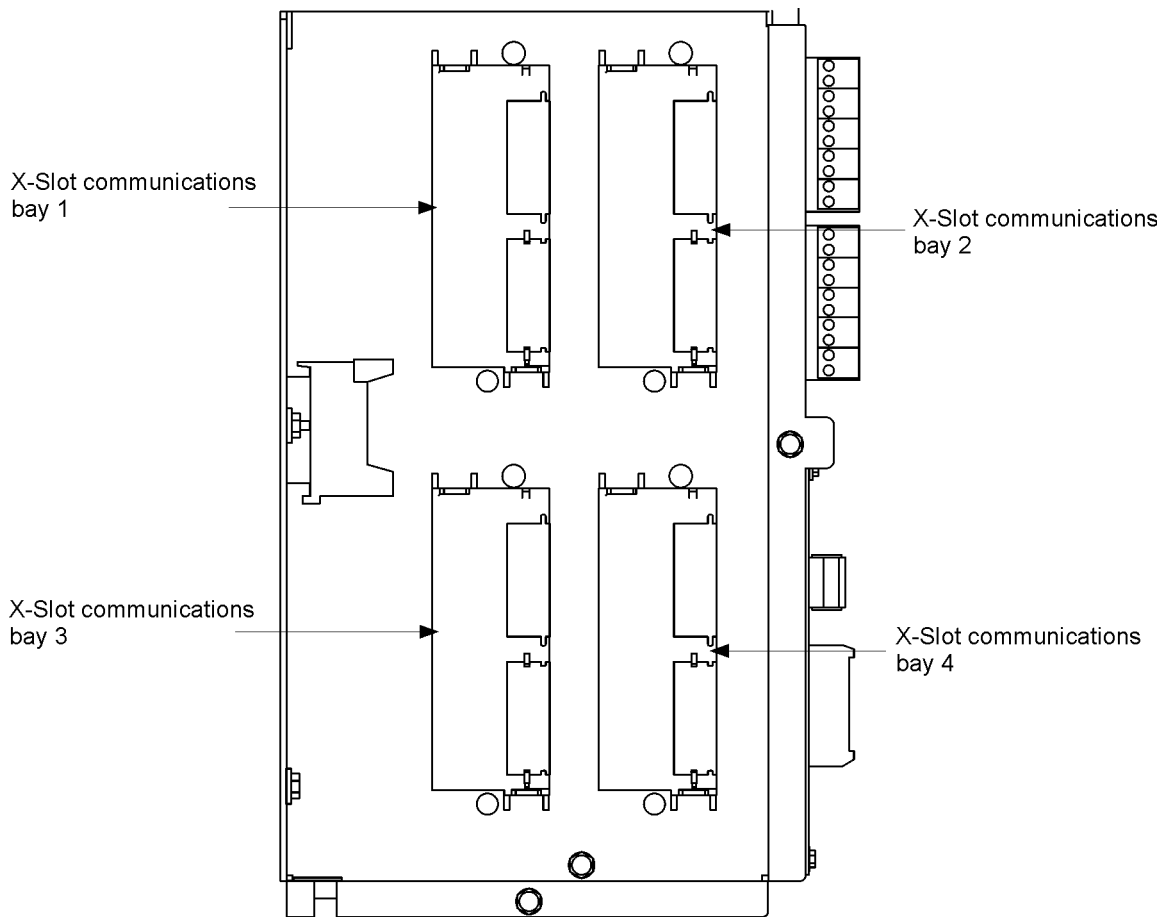

Figure 3-11. X-Slot communication bays
5. Route and install the LAN, telephone, and other cables to the appropriate X-Slot cards. See Figure 3-7 and Figure 3-11 for X-Slot location.